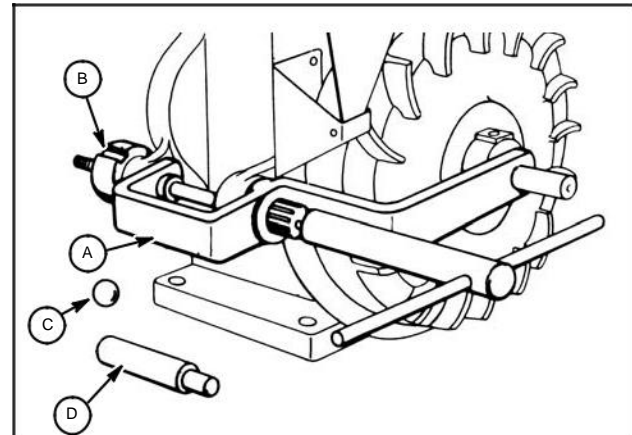

Fig. 587 – REPAIRING WORN STARTER SHAFT HOLE
To repair, use reaming fixture No. 60079-T3 (obs). Remove starter pedal, blower case, and clutch. Slip frame (A) over end of crankshaft and into left starter lug hole, Fig. 587. Ream with the smaller (13/16") dia. shell reamer. Use nut (B) on end of arbor to draw reamer in uniformly. If nut (B) turns, lock it with a suitable pin at slot. Run reamer in far enough to chamfer end of hole to take bushing easier.
**NOTE:** If 13/16" diameter reamer does not clean up worn hole, run the 7/8" diameter through. In most cases the smaller diameter is sufficient. After reaming, press in the right size bushing. The 13/16" diameter bushing is Part #63673 (obs). The 7/8" diameter bushing is Part #63706 (obs). With bushing in place, burnish hole by pushing steel ball (C) through twice with plunger (D). Try starter shaft in hole. If shaft is tight in hole, push steel ball through third time. Shaft should have good slide fit in hole.